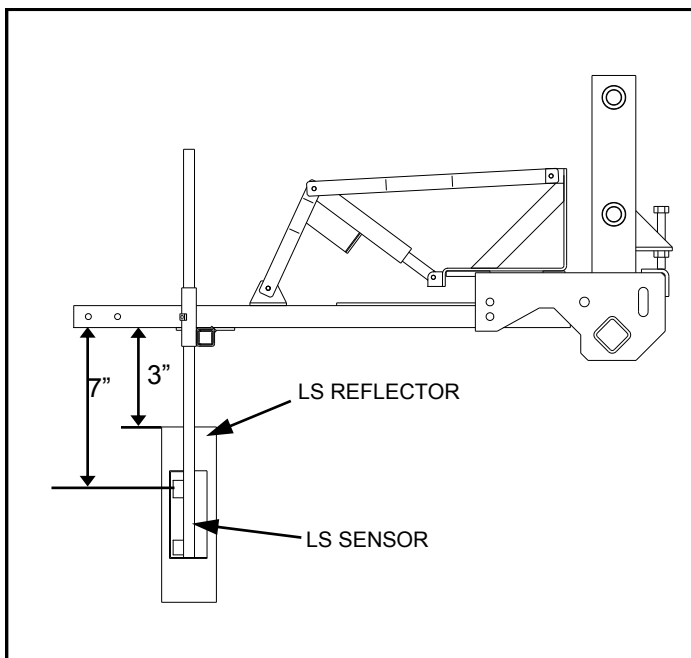

FIG 4.24
6. With a tape measure, set the center of the top Tasselrol[®] sensor to a depth of seven inches (fig. 4.24). Set the top edge of reflector to three inches (fig. 4.24).